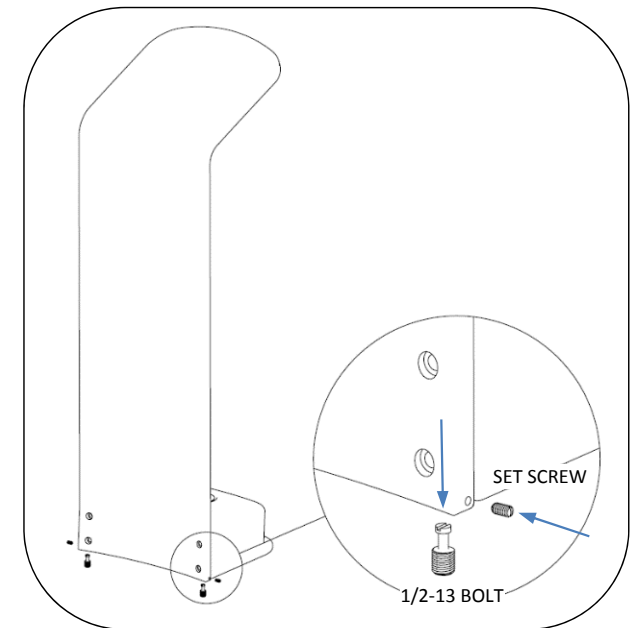

Fig. 3 – Install hardware
7. Install set screws to secure, see Fig. 3.